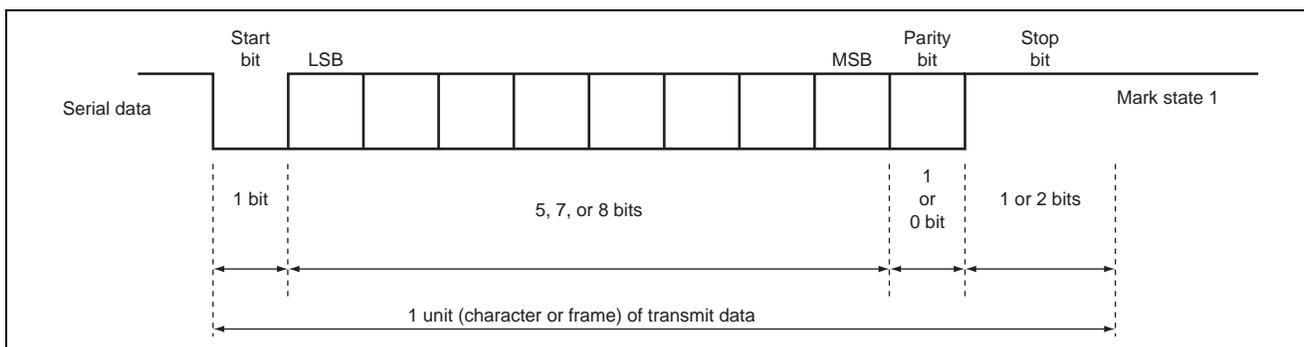

Figure 2 Format for Data Transfer in the Asynchronous Mode
- Figure 2 shows the format for data transfer in the asynchronous mode.